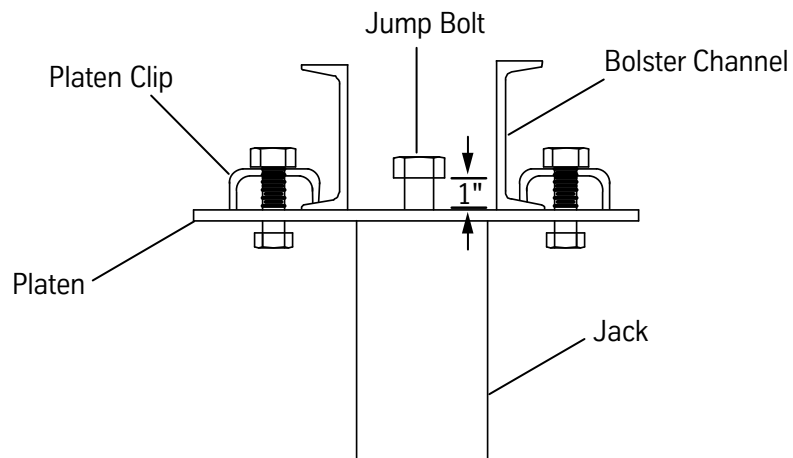

Figure 19 - Jump Bolt through Platen Plate
- e. Align the platen (as necessary), and tighten the platen clips to the bolster channels. See Figure 19.